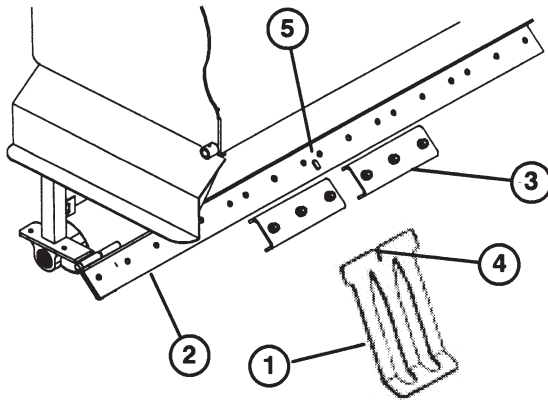

Figure 13
the turf finger tool bar (Fig. 13).
2. Slide the appropriate turf guard under the center turf guard clamp while inserting the notch onto the locator key of the turf finger bracket (Fig. 13).